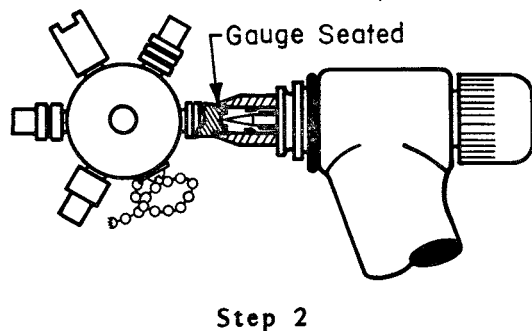

Figure 4-C
- 4) Select the proper gauge on the gauge and wrench assembly (Item 11). The electrode (Item 9) must contact the gauge to be properly adjusted (Step 1, Fig. 4-C). Insert the gauge into the front of the torch and press until the shoulder of the gauge contacts the torch anode (Step 2, Fig. 4-C). Tighten the electrode cap (Item 10) securely while holding pressure against the gauge.